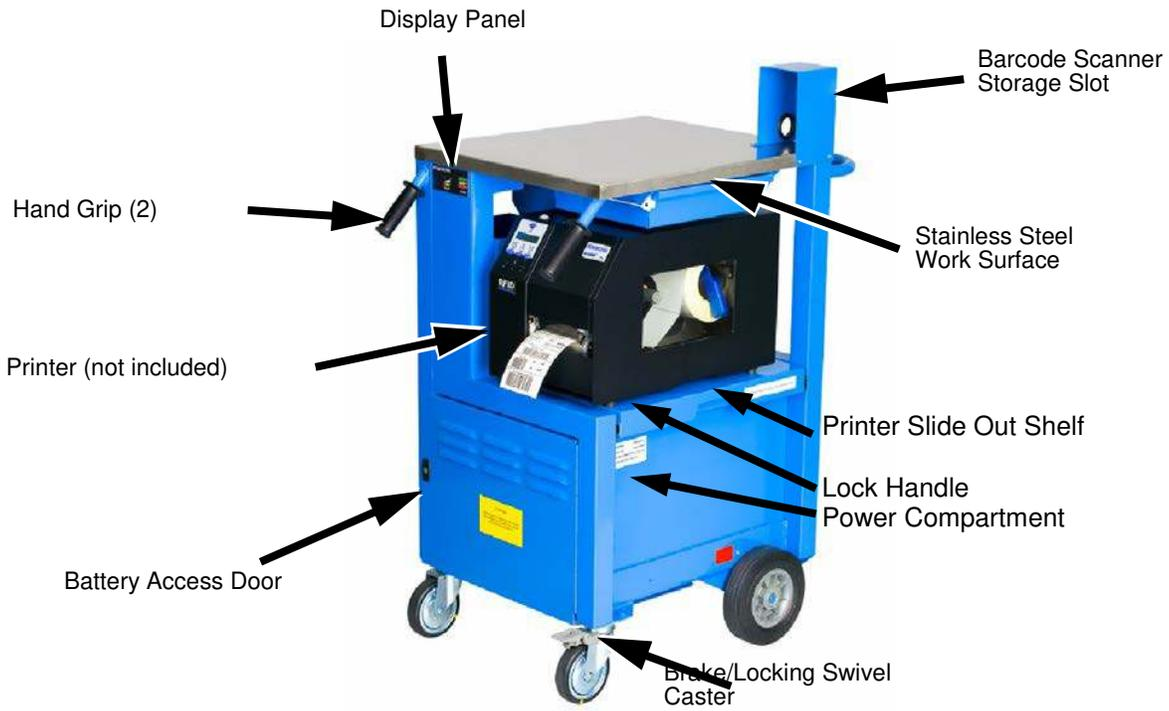

Figure 5. Rear Right View of the PrintCart
1. Locate the lock handle under the center of the shelf on the right side of the PrintCart, see Figure 5, on page 16.